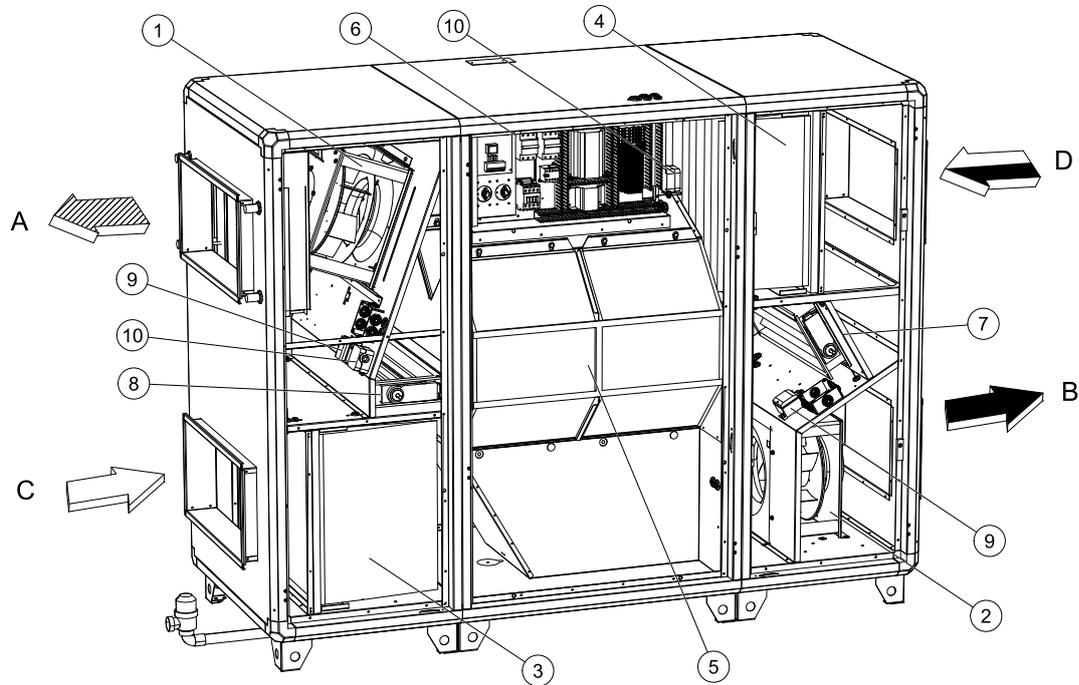

Fig. 1 Internal components with air connections symbols (Drawn as a left hand unit)
2 pressure transmitters maintain the airflow at a constant level by measuring the differential pressure over the inlet cone of the fan impellers (pos.9 figure 1). The pressure transmitters are installed from factory in all units with CAV control. In VAV units the pressure transmitters will not be mounted in the unit from factory. Instead they will be delivered loosely with the unit to be mounted in the supply and extract air ducts, see “Installation instructions” for more information concerning VAV installations.
A pressure guard measures the differential pressure over the supply and extract air filters (pos10, figure 1.) When the pressure drop reaches the set value an alarm is triggered in the main regulator. The differential pressure can be set between 40 and 300 Pa. The pressure switch is preset from factory to 240 Pa.